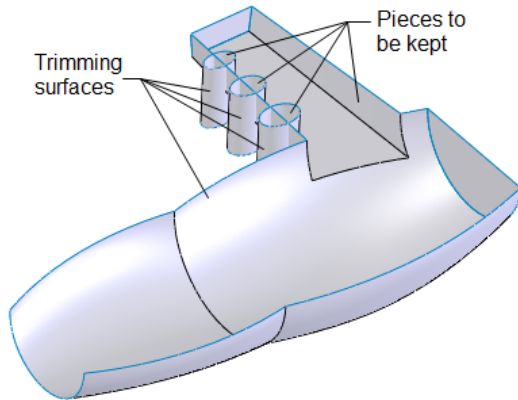

Figure 1-151 Trimming surfaces and the pieces to be kept
5. Select the trimming surfaces and the pieces to be kept, as shown in Figure 1-151.